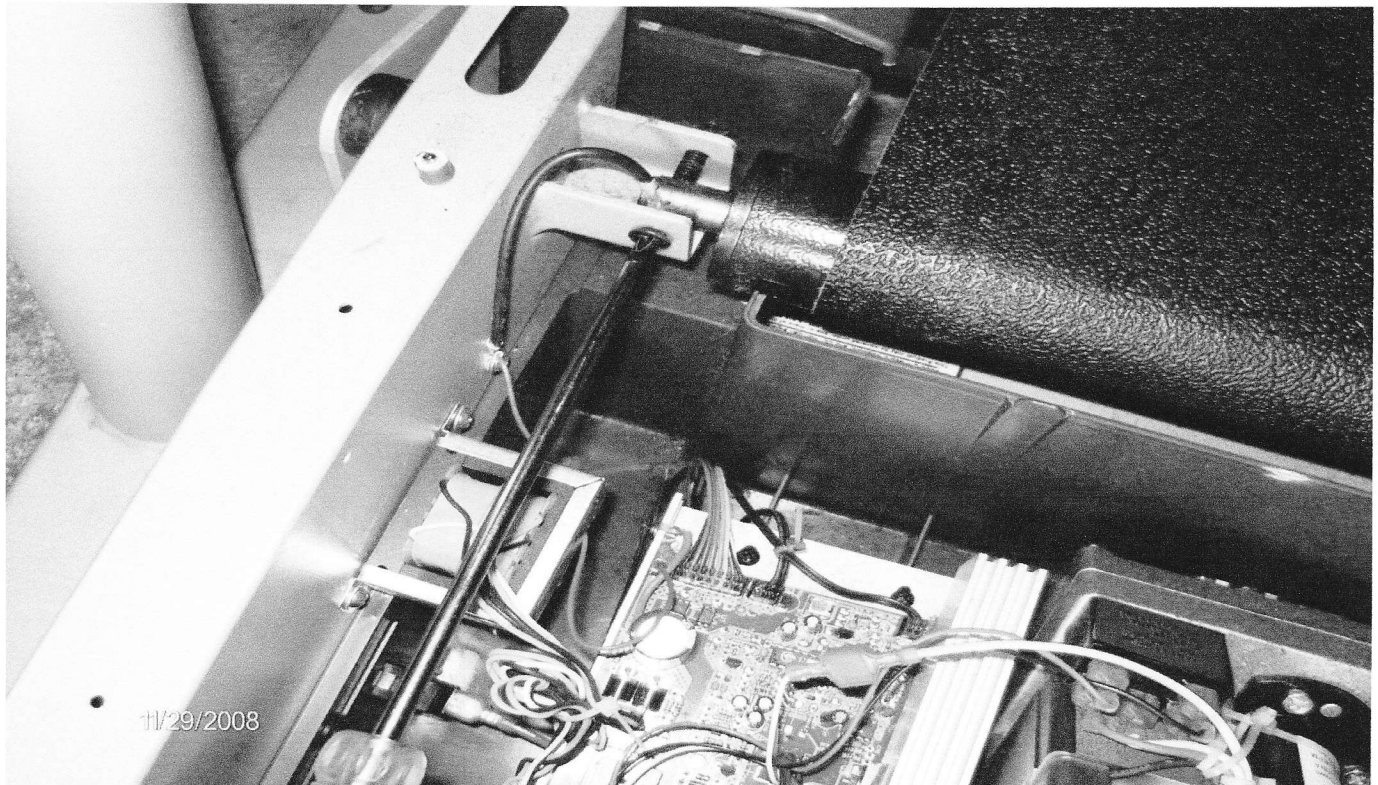

FIG 8.
10) Secure the front roller with the alignment screw. Tighten up to the mark, made earlier (fig 8).